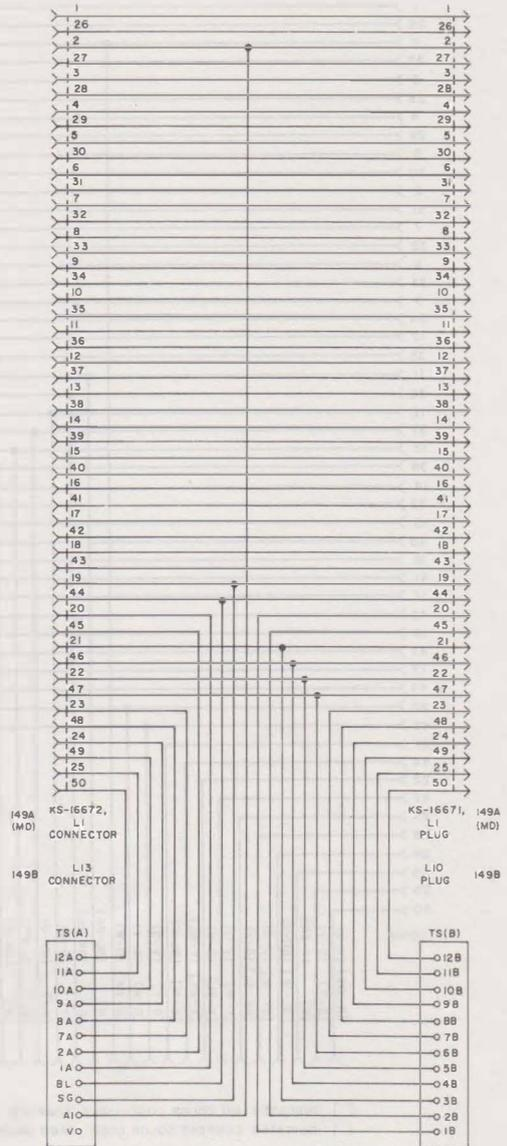
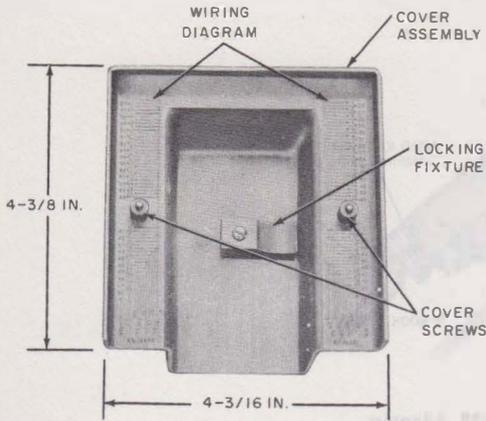

Fig. 5—149A (MD) and 149B Adapter, Schematic
Fig. 6—149B Adapter, Inside Cover
- Pins 1 through 47 of the plug, are interwired to corresponding pins of the connector. Terminal strip A is wired to pins of the connector and terminal strip B is wired to pins of the plug (Fig. 5).
- Has a removable high-impact polystyrene cover (Fig. 6).
- A reversible locking fixture attached to the inside of the cover (Fig. 6), secures an external plug (KS-16689L1 plug-ended cord) to the KS-16672L13 connector.
- The wiring diagram (Fig. 5) is also molded into the inner surface of the cover assembly (Fig. 6).